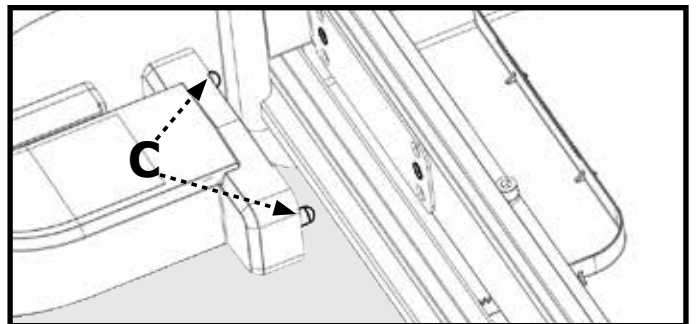

Figure 6
1. Attach the Saw Arm Assembly to the main frame by first aligning the Pegs (C) on the Saw Arm Assembly to the holes on the main frame as shown in Figure 6.